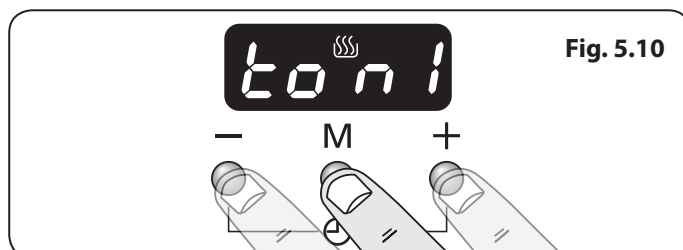

Fig. 5.10
1. Press the the [+] and [-] buttons simultaneously, then the mode [M] button. The display will show 'ton1,2 or 3' (**Fig. 5.10**).